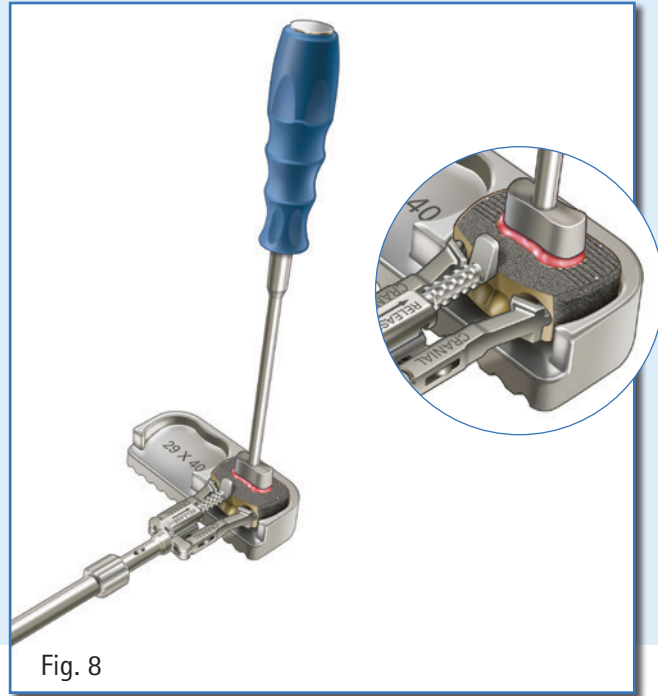

Fig. 8
- Use the tamp to firmly pack autograft material into the implant (Fig. 8).